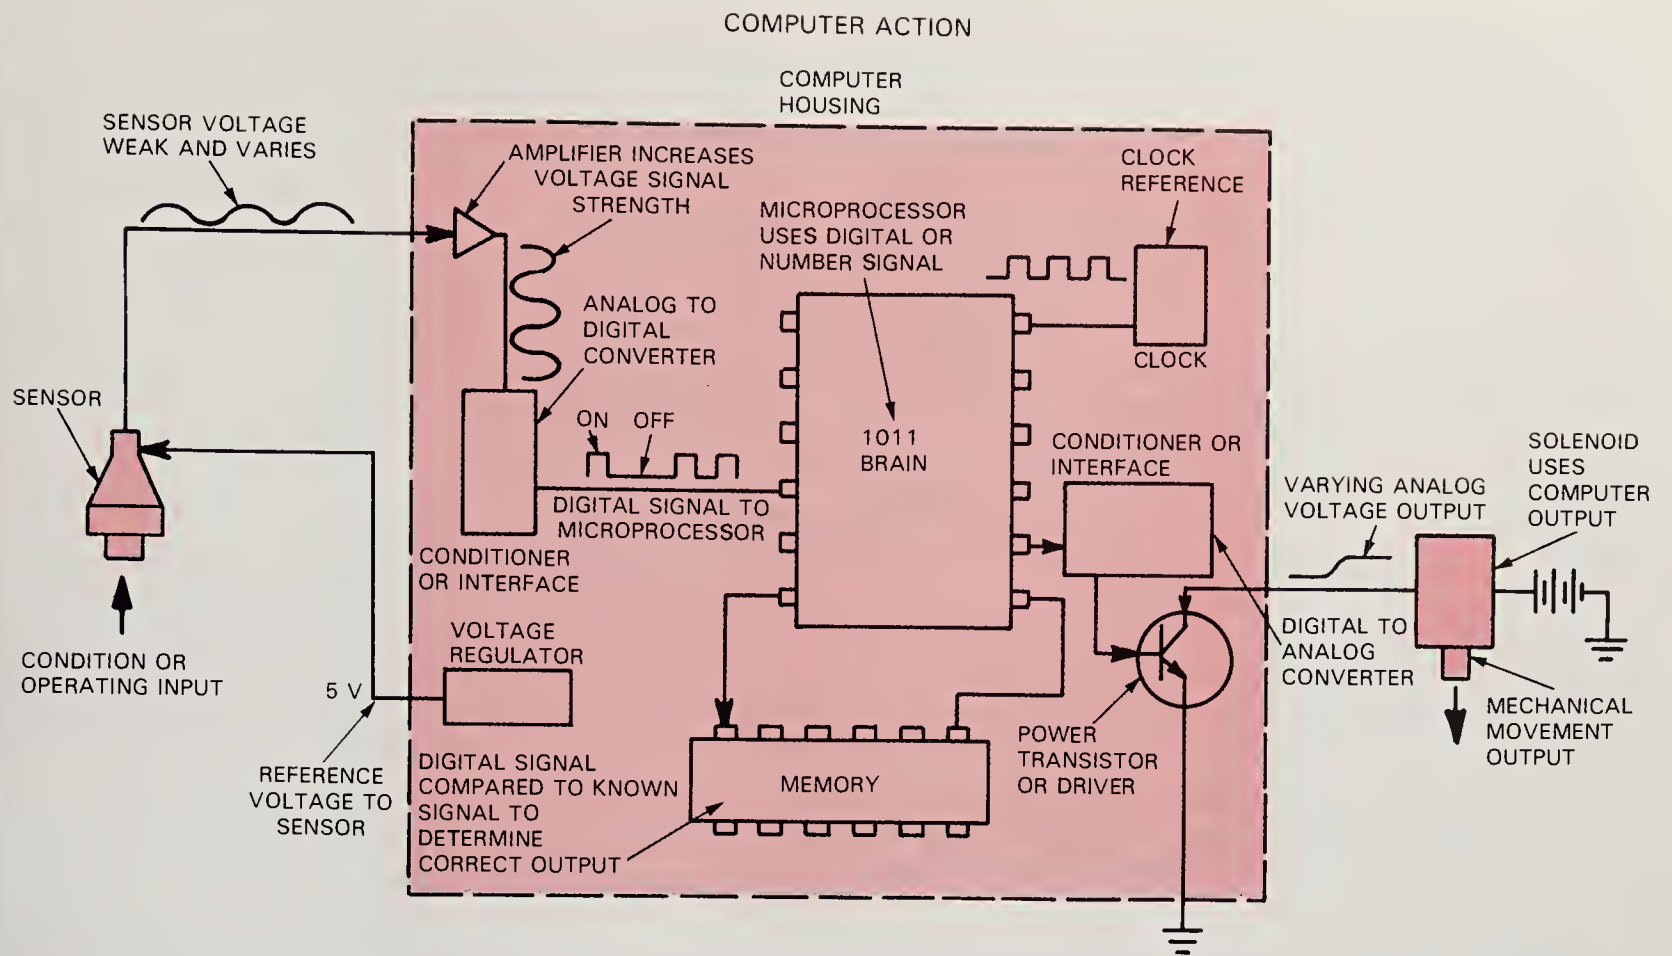

Fig. 74-24. Trace flow of data through this simplified computer system. Can you explain the purpose of each component?
2. **AMPLIFIERS** (increase voltage and current for other computer devices), Fig. 74-24.
5. **MEMORY** (IC chips that store data for microprocessor), Fig. 74-24.